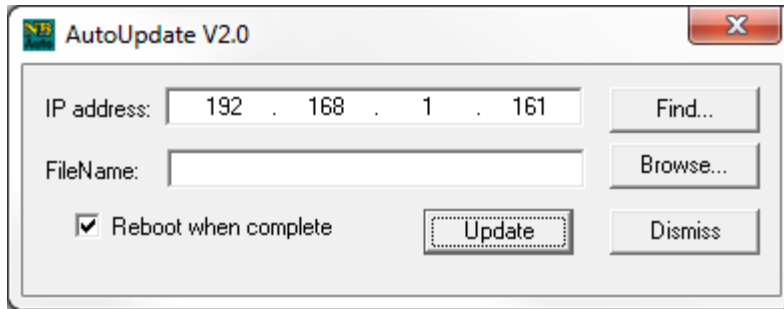

Figure 10
1. Load new D2Mux firmware using the AutoUpdate application included in the installation CD (see Figure 10).